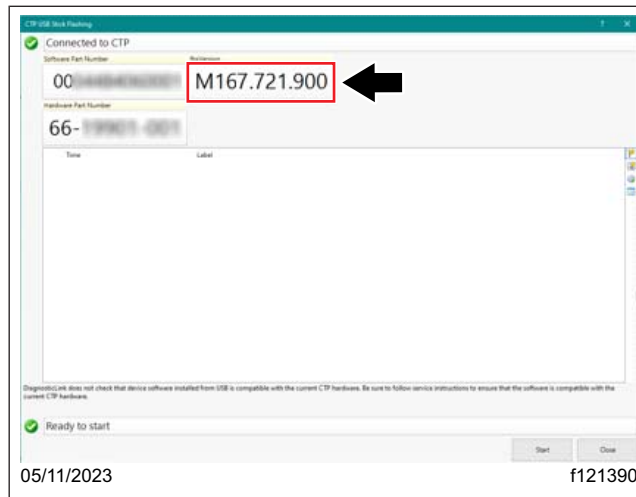

Fig. 17, Verifying the fbsVersion in the CTP USB Stick Flashing Window
18. Once the CTP01T connection turns green in the 'Connections' window, go to 'Actions' in the menu bar, select 'Telematics', then select 'CTP USB Stick Flashing.' Verify the 'fbsVersion' is '167.721.900.' See Fig. 17. If the 'fbsVersion' does not match updated version '167.721.900,' disconnect the CTP01T and connect again. Then verify the 'fbsVersion' again.